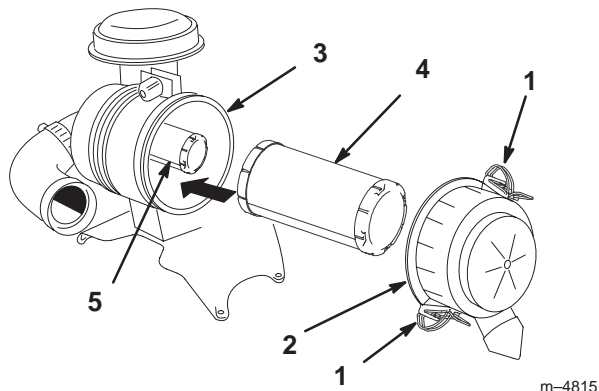

Figure 30
- If the safety filter is being replaced, carefully slide it into the filter body (Fig. 30).
- Carefully slide the primary filter over the safety filter (Fig. 30). Ensure that it is fully seated by pushing on the outer rim of the filter while installing it.
- Install the air cleaner cover with the side indicated as UP facing up and secure the latches (Fig. 30).